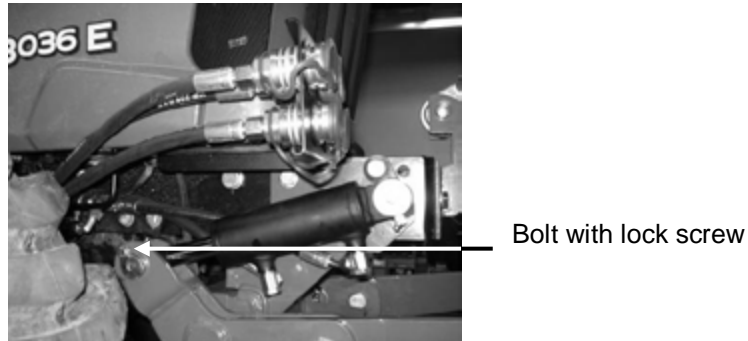

Fig 8: Cylinder installation with lift shackle
6. Use bolts to fasten the free end of the cylinder to the lift shackle of the basic implement (Fig 8).